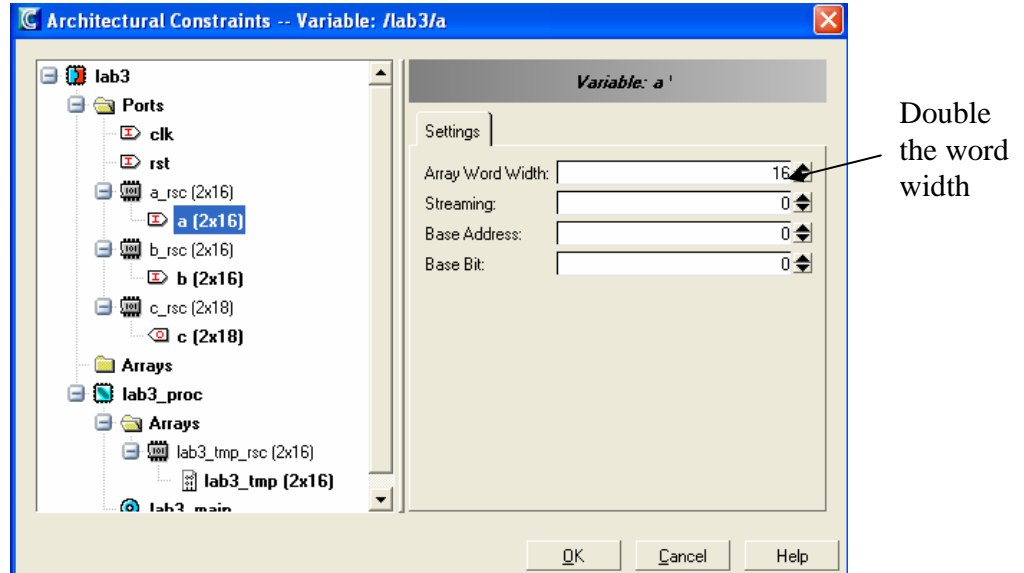

Figure 7 Setting the Word Width
- ✓ Click on architectural constraints and double the word width of all internal and external arrays (e.g $a=16, b=16, tmp=16, c=18$). This is done by expanding each resource and clicking on the variable associated with that resource (Figure 7).